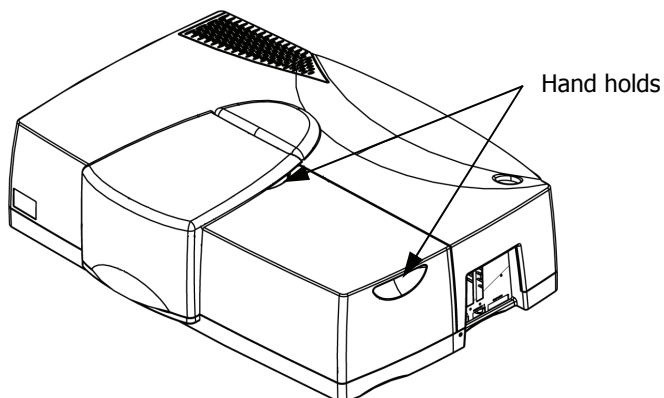

Figure 19 Removing the detector compartment cover
4. Remove the detector compartment cover by carefully lifting vertically using the two hand holds, as shown in Figure 19.